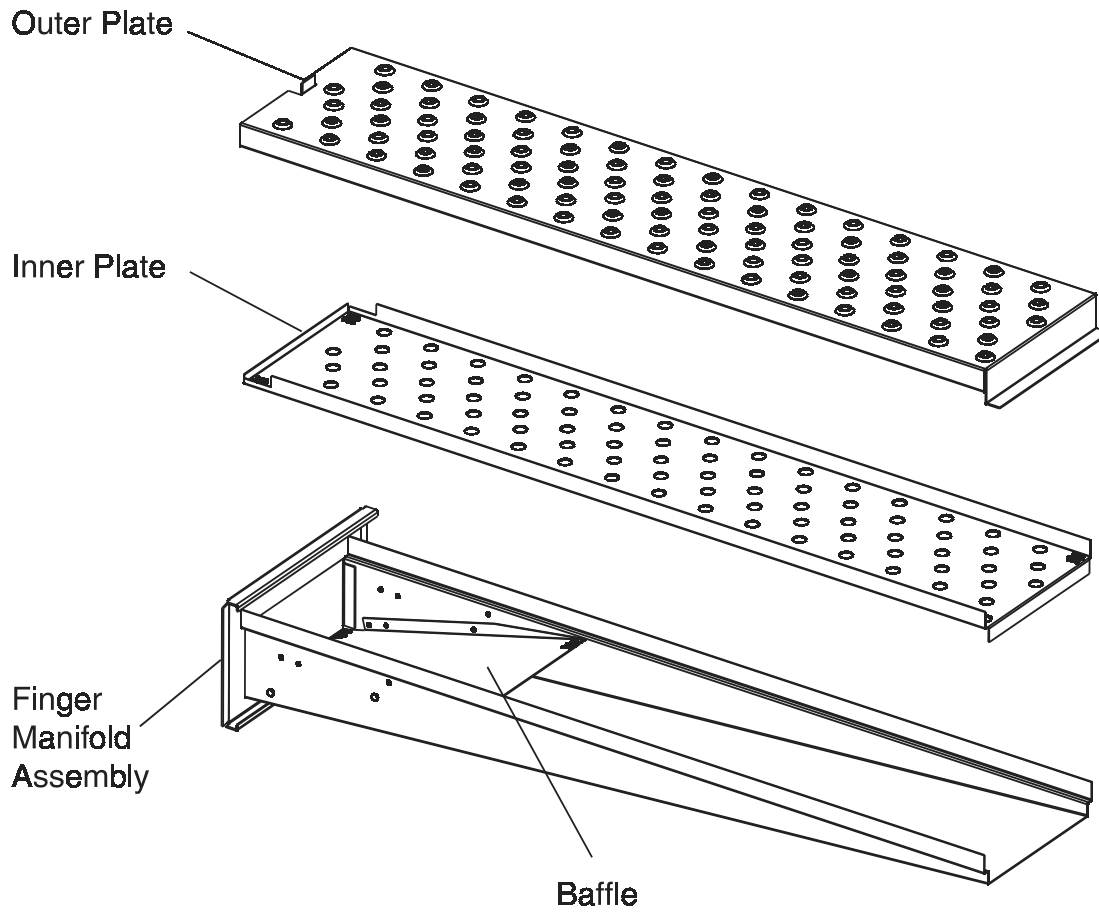

Figure 1-7. Air Finger Components.
E. Air Fingers and Blank Plates - See Figure 1-7